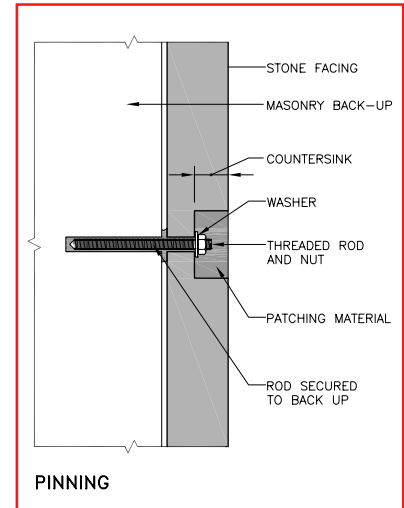

Figure 3
**Pinning** stonework is performed by securing non-corrosive rods through the stone into the masonry backing. (Figure 3)